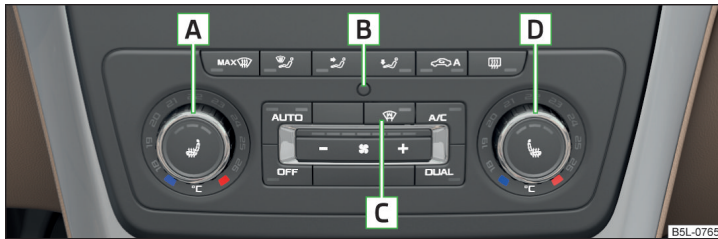

Fig. 124 Controls the Climatronic
**Functions of the individual controls** » Fig. 124
The temperature **for both sides**, is set by turning the knob **A** » Fig. 124 (the indicator light in the button **DUAL** is not illuminated).
Do not cover the interior temperature sensor  » Fig. 124 as this could impair the functioning of the Climatronic.